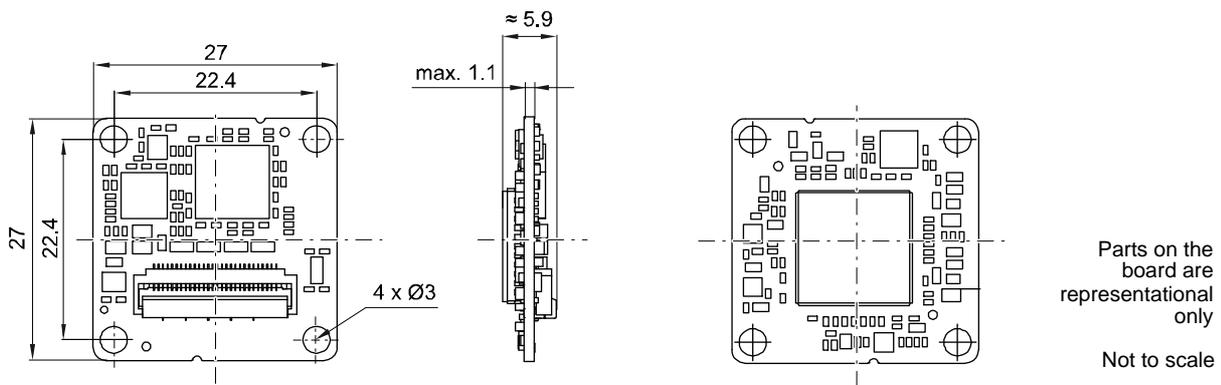

Fig. 8: Mechanical Dimensions (in mm) for Bare Board Cameras (daA1600-60bm/bc)
- dart bare board cameras are as shown in Figure 8.